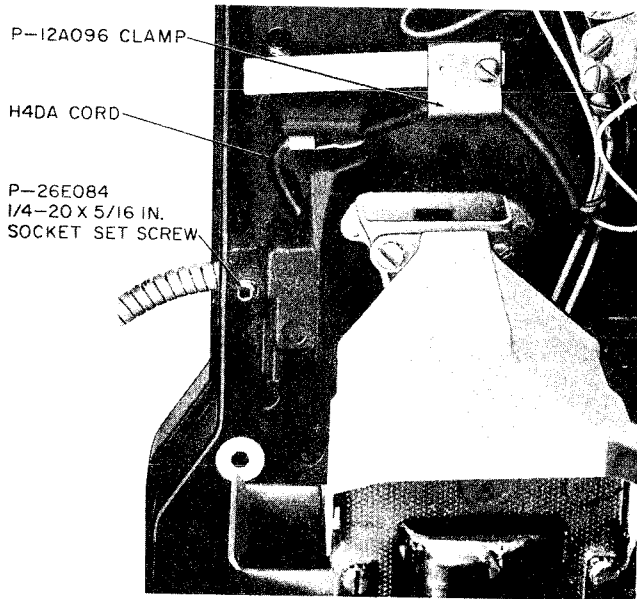

Fig. 29— Installation of Armored Cord
- (6) Tap the hole drilled in step 5 using a 1/4-20 tap with a Greenfield T-Handle tap wrench or an approved equivalent.
- (7) Clean metal shavings from the cord entrance hole.
- (8) Using the pull-in wire placed in step 3, pull in new cord.
- (9) Remove the pull-in wire from the new cord and fasten the P-12A096 clamp over the cord (Fig. 29).
- (10) A P-26E084 1/4-20 by 5/16-inch self-locking setscrew is used to secure the cord to the coin collector backplate (Fig. 29). A flat surface is located approximately 1/4-inch from the set end of the stainless steel flexible hose. Using a 1/8-inch Allen wrench, screw the socket setscrew into the hole drilled in step 5 until it just makes contact with the flat surface of the metal hose. Give the setscrew one full turn. This should hold the cord firmly in the coin collector.
- (11) Remove the protective covering placed in step 3 and replace the upper housing.